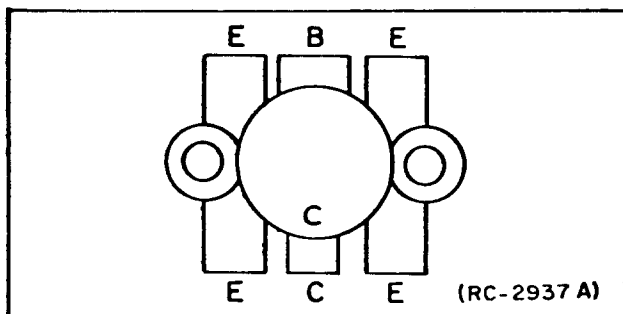

Figure 6 - Lead Identification
| Figure 6 - Lead Identification | 5 |
1. Trim the new transistor leads (if required) to the lead length of the removed transistor. The collector lead is identified by the smaller center lead (See Figure 6). The letter "C" on top of each transistor also identifies the collector.
- B. To hold setting error to ±0.35 PPM (which is considered reasonable for 2 PPM ICOMS): Maintain unit at 26.5°C (±5°C) and offset the oscillator as a function of actual temperature, by the amount shown in Figure 6.